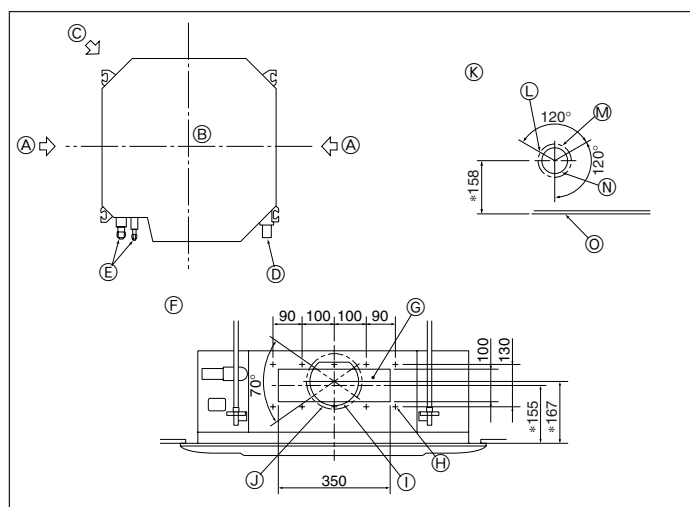

Fig. 2-3
2.3. Branch duct hole and fresh air intake hole (Fig. 2-3)